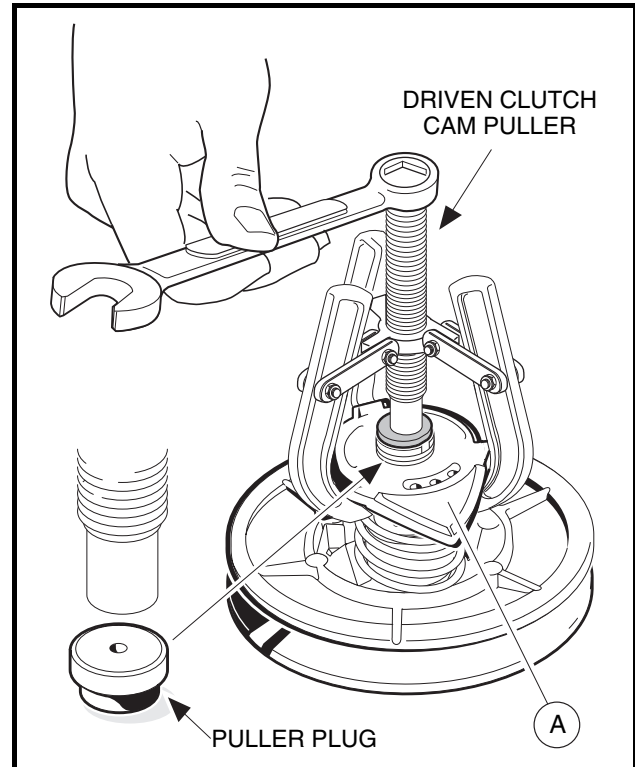
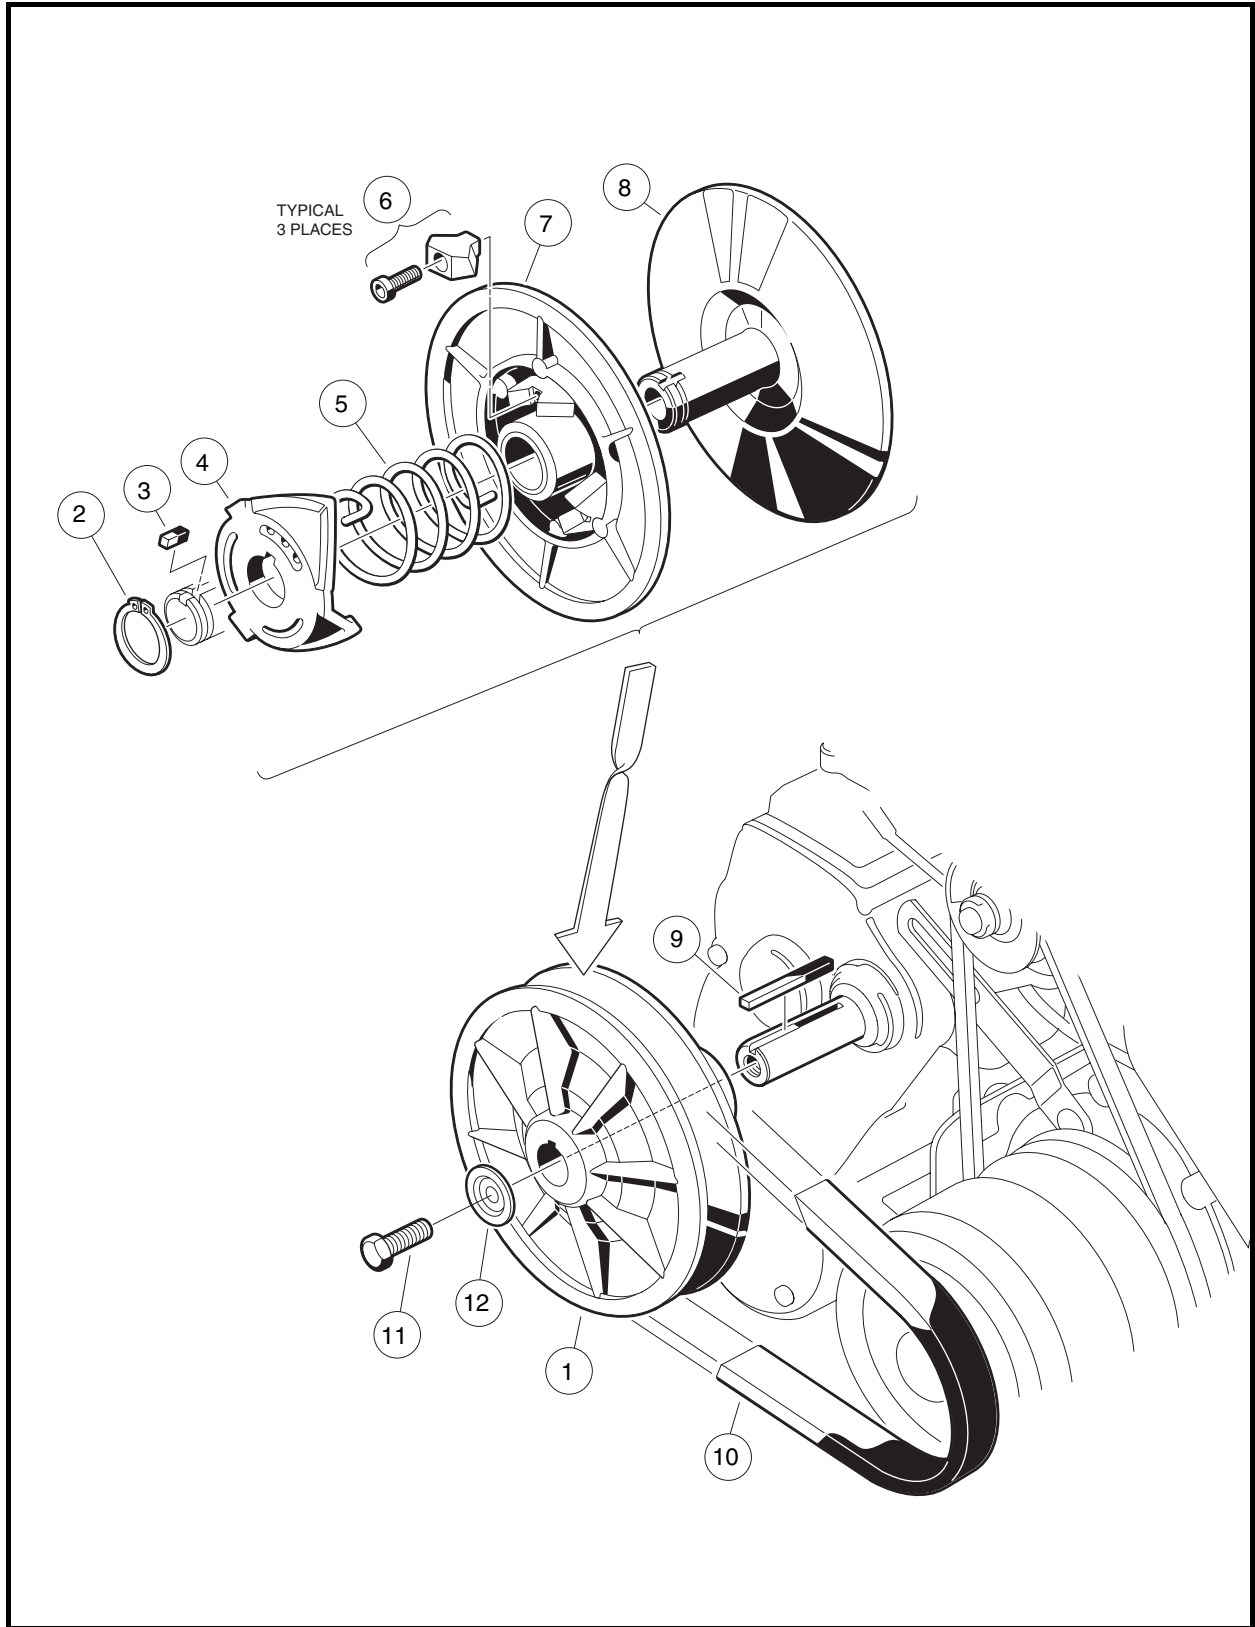

Figure 17-21 Driven Clutch Disassembly
Figure 17-22 Driven Clutch Assembly
3. Remove the bolt (11) and mounting washer (12) from the clutch shaft (**Figure 17-22, Page 17-15**).
5. Leave the key (9) in the keyway.
2. Insert a puller plug (CCI P/N 1014507) (**Figure 17-21, Page 17-14**) into the shaft bore and use a driven clutch cam puller (CCI P/N 1014508) to remove the cam (4) from the fixed face shaft (8) (**Figure 17-22, Page 17-15**).
3. Remove the spring (5) (**Figure 17-22, Page 17-15**).
4. Retain the key (3).
5. Slide the moveable face (7) off the fixed face shaft (8).
1. Inspect the cam (4) for excessive wear. Replace it if necessary (**Figure 17-22, Page 17-15**).
2. Inspect the drive buttons (6) for excessive wear. Replace if necessary. To remove the drive buttons, remove the socket-head cap screws and then the buttons.
1. Place the three drive buttons (6) in position. Apply one drop of Loctite[®] 222 to each of the socket-head cap screws and then install and tighten them to 8 in-lb (0.9 N-m) (**Figure 17-22, Page 17-15**).
2. Slide the moveable face assembly (7) onto the fixed face shaft (8).
3. Place the end of the spring (5) into the hole in the moveable face assembly.
4. Install the key (3) into the keyway of the fixed face assembly (8) shaft.
5. Holding the cam (4) in position for assembly on the shaft, install the other end of the spring (5) into the center spring hole of the cam. Rotate the cam until the keyway is aligned with the key (3) on the fixed face assembly, and then start the cam onto the shaft approximately 1/4 to 3/8 inch (6.3 to 9.5 mm).
- 5.1.3. Install the retaining ring (2) (**Figure 17-22, Page 17-15**). **See following NOTE.**
1. To install the driven clutch, reverse the removal procedure. Make sure that the washer (12) is mounted with the flat portion of the washer against the driven clutch (**Figure 17-22, Page 17-15**). Secure with a new bolt (11). **See following NOTE.**